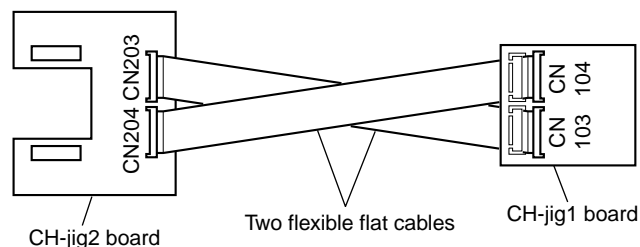

Fig. 1
- 7) Set the jig (J-6090-102-A) as shown in Fig. 1.